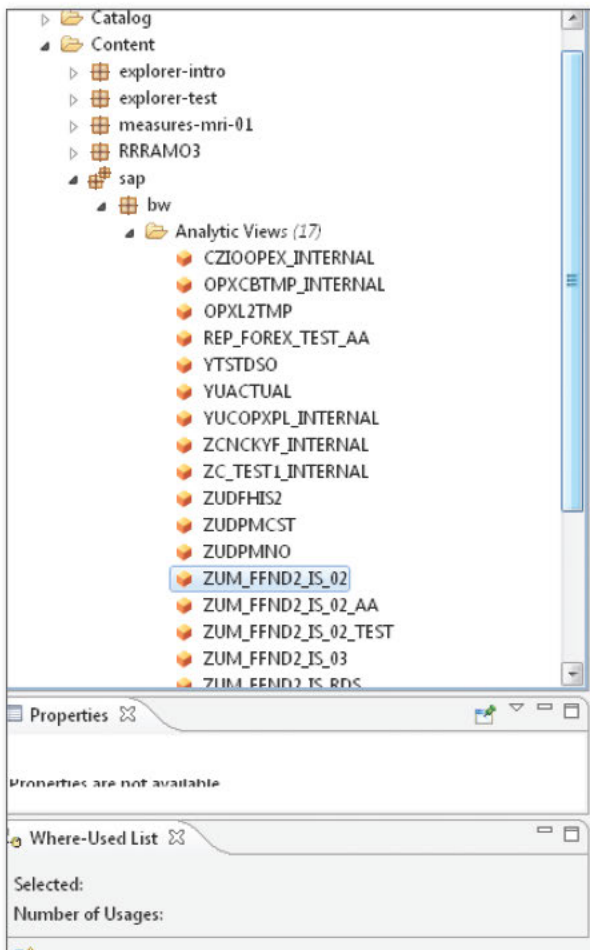

Figure 2 Imported BEx Query Displayed as an SAP HANA View
9. The SAP HANA model is created and activated. Figure 2 on the SAP HANA environment displays the analytical views that are included in the folder SAP.BW. In the earlier step, we indicated that the TARGET PACKAGE should be SAP.BW, so based on all of the preceding steps, the analytical view will be generated for the